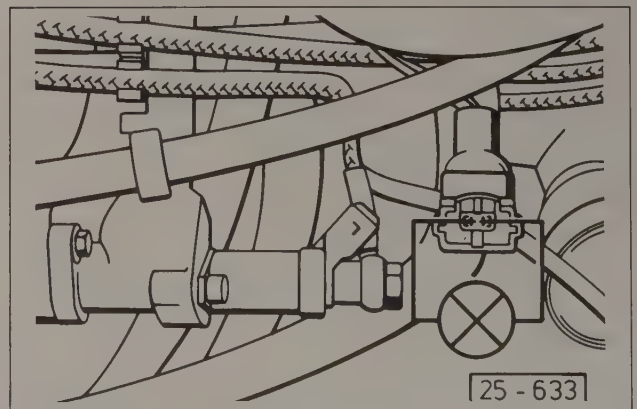

Fig. 6-19. Test light (shown schematically) connected to cold start valve connector.
3. Disconnect the cold-start valve harness connector and connect a test light across the connector terminals, as shown in Fig. 6-19.